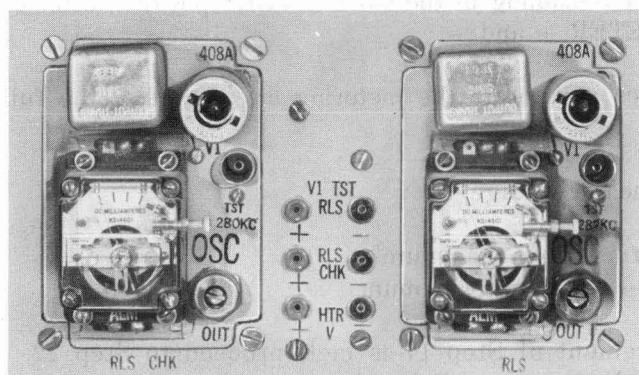

Fig. 4—Oscillators and Test Jacks on Common Switch Control Unit
- 9 With the VOM remaining in the 0.3 DC VOLT position, connect the leads to the HTR V jacks on the common switch control unit (see Fig. 4).